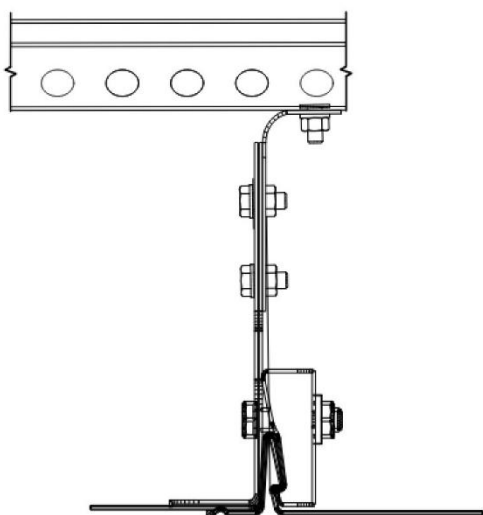

Figure 3.
- Make sure that the RP-bracket parts are in the position shown in the figure (Figure 3).